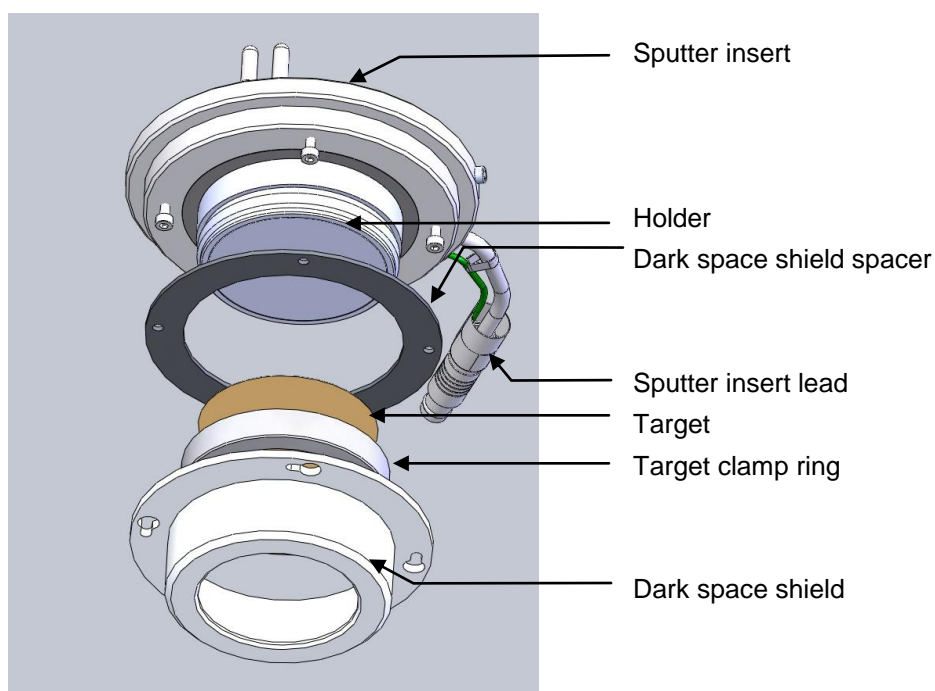

Figure 7-2. Sputter insert and target assembly
- a. Unscrew the target clamp ring (see **Figure 7-2**).